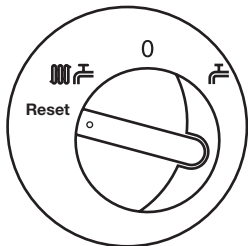

Fig. 3
1. To reset: Turn the selector fully anti-clockwise against the spring pressure to the 'Reset' position for at least two seconds and release (Fig. 3).